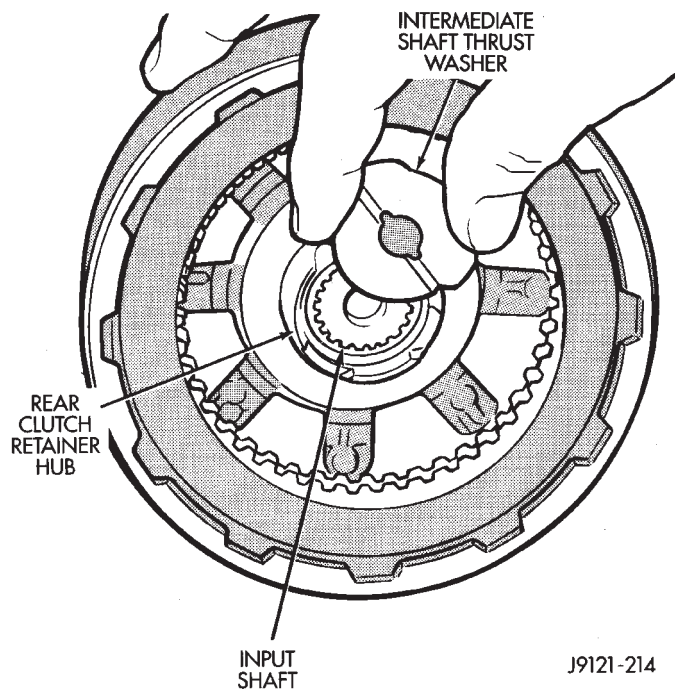

Fig. 20 Removing Intermediate Shaft Thrust Washer
(30) Remove intermediate shaft thrust washer from front end of shaft or from rear clutch hub (Fig. 20).